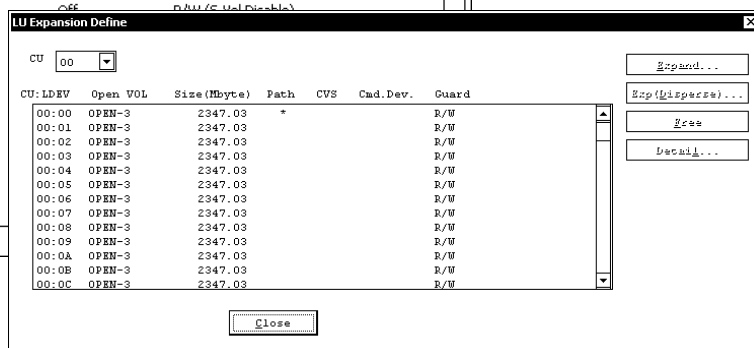

Figure 9.2 LU Expansion Define Window
- ② Since the LU Expansion Define window (Figure 9.2) is displayed, set each item and select (CL) the [OK] button (When 'Change Configuration', select (CL) the [Close] button, because the [Close] button is displayed instead of the [OK]/[Cancel] button).